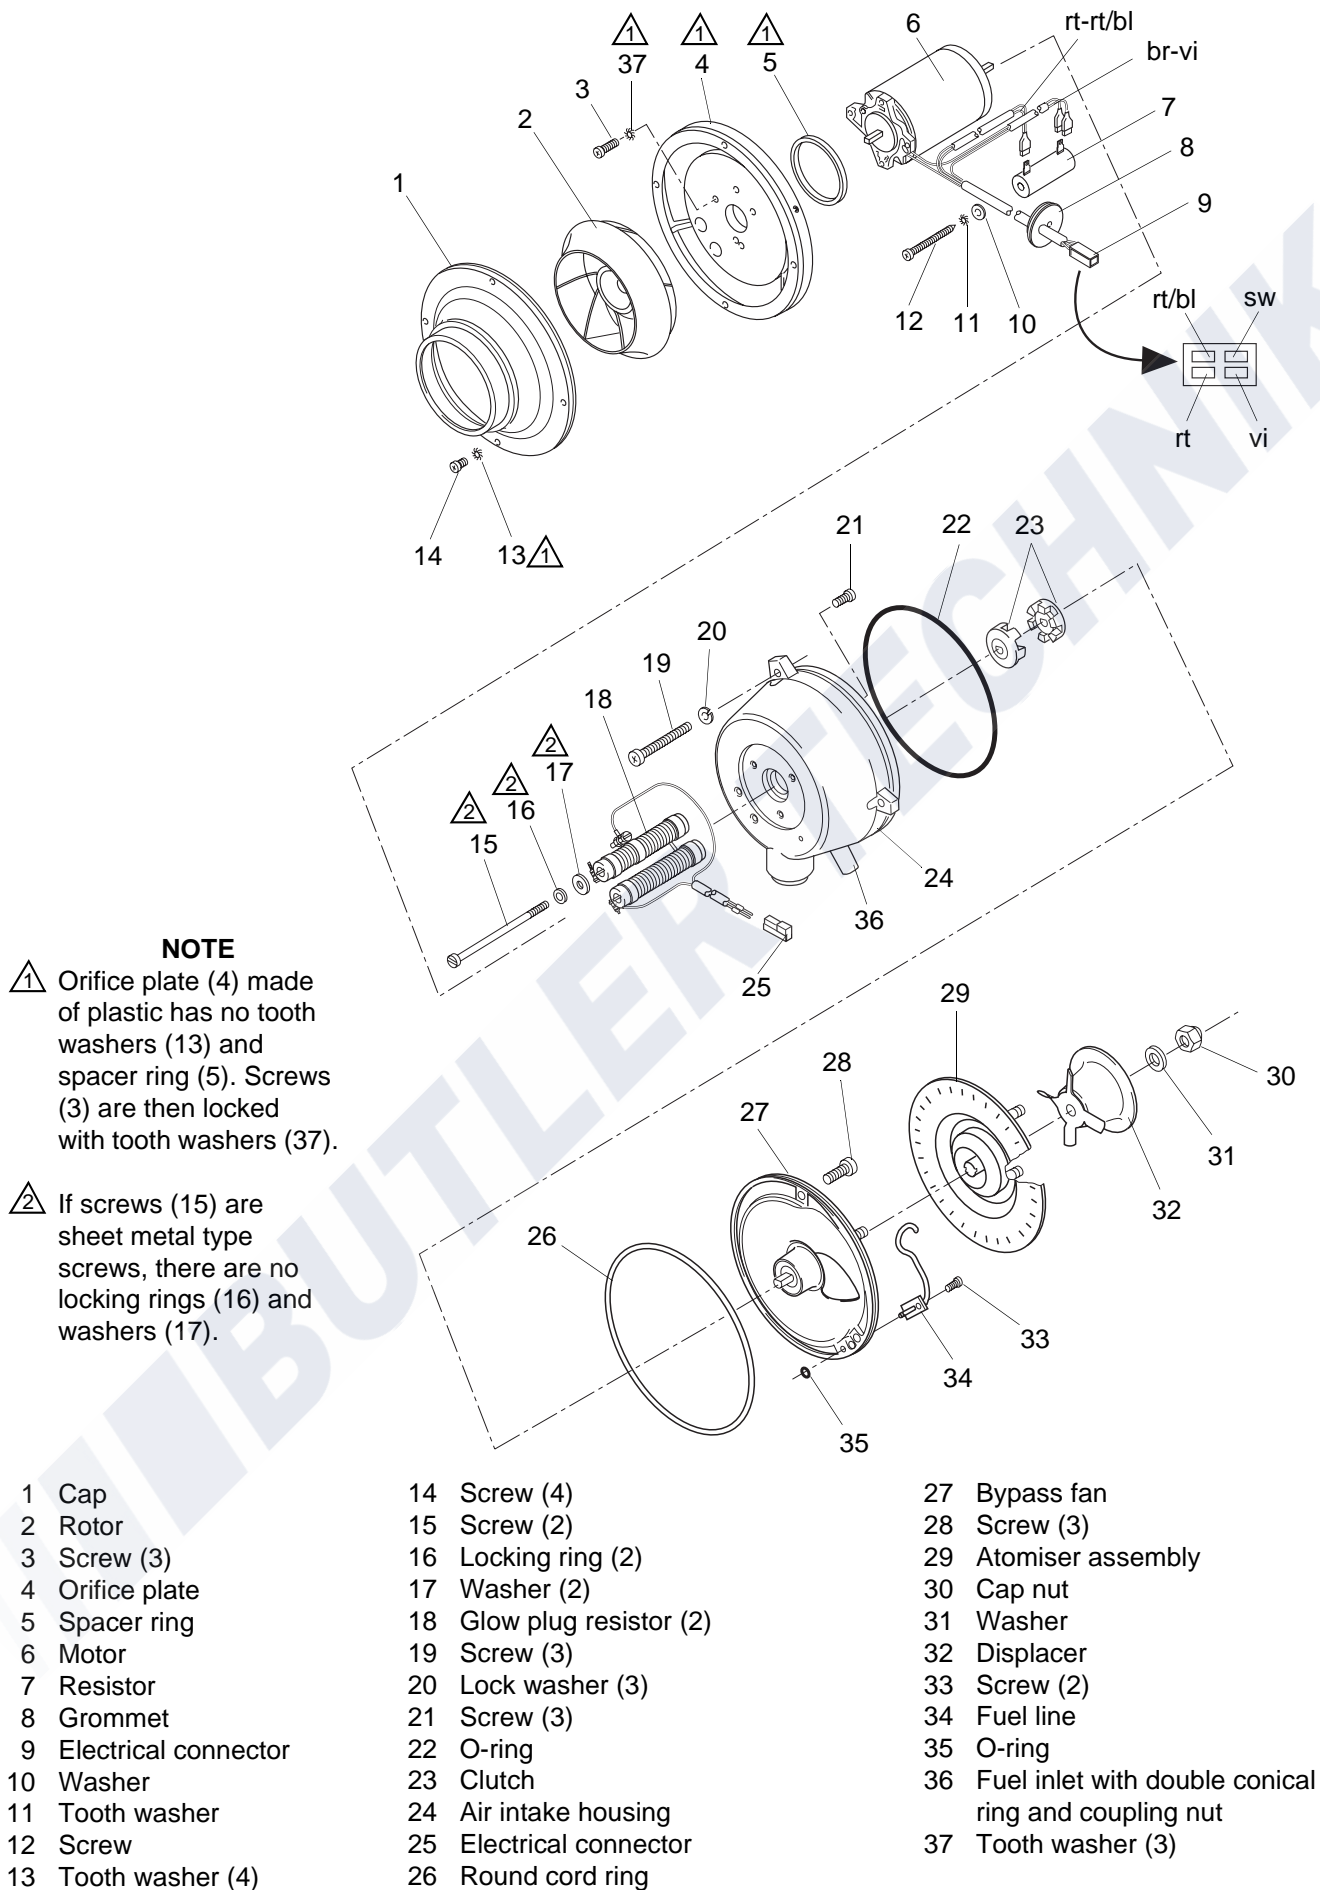

Fig. 902 Disassembly of Drive
2. Disconnect electrical connector (9 and 25, Fig. 902) and carefully push into half case together with grommet (8).
4. Remove screws (19, Fig. 902) and lock washers (20).
1. Apply vaseline to O-ring (22, Fig. 902).
2. Bring drive with heat exchanger in assembly position secure with screws (19, Fig. 902) and lock washers (20).
4. Slightly widen half case (15, Fig. 901), route electrical connector (9 and 25, Fig. 902) with cable to exterior and push grommet (8) into opening for proper fit in place.
6. Secure half case (15) with screws (16) and spring washers (17).
8. Secure cap (1, Fig. 902) with screws (14) and tooth washers (13).
9. Tighten screws (14) with 2.5 ± 0.2 Nm.
1. For removal of cap (1, Fig. 902) remove screw (14) and tooth washers (13) as required.
2. Using two levers (wide blade screw drivers, etc.) lever plastic rotor (2) off from motor shaft by pushing against orifice plate (4). Remove orifice plate and spacer ring (5) by removing screws (3).
When disassembling and disconnecting wiring and connectors make sure to observe wiring arrangement, see Fig. 902.
1. Position new O-ring (22, Fig. 902) on air intake housing for assembly.
2. Assemble air intake housing (24) and motor (6) with screws (21).
3. Slide half of clutch (23) onto motor shaft in air intake housing (24).
4. Position new O-ring (35) at fuel transfer point in air intake housing.
5. Position new round cord ring (26) in bypass fan (27).
6. Slide other half of clutch (23) onto shaft in bypass fan (27).